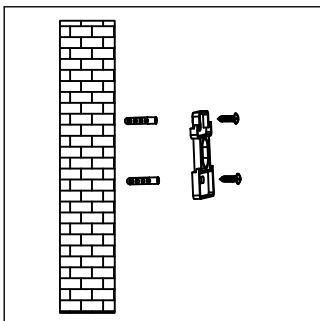

Fig.4
Step 3: Fix the wall plugs (Fig.4).